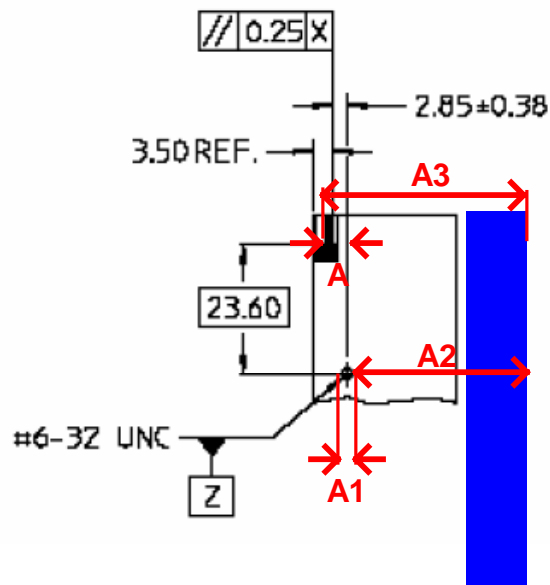

Figure 7
1. Using the inside measurement jaws on the calipers, measure the width of the mounting hole as shown in Figure 7. Record this value as  $A1$ .
3. Using the outside measurement jaws of the calipers, measure the distance from the edge of the mounting hole to the face of the flat surface, as shown in Figure 7. Record this value as  $A2$ .
5. Using the outside measurement jaws of the calipers, measure the distance from the top of the device tongue, to the face of the flat surface as shown in Figure 7. Record this value as  $A3$ .